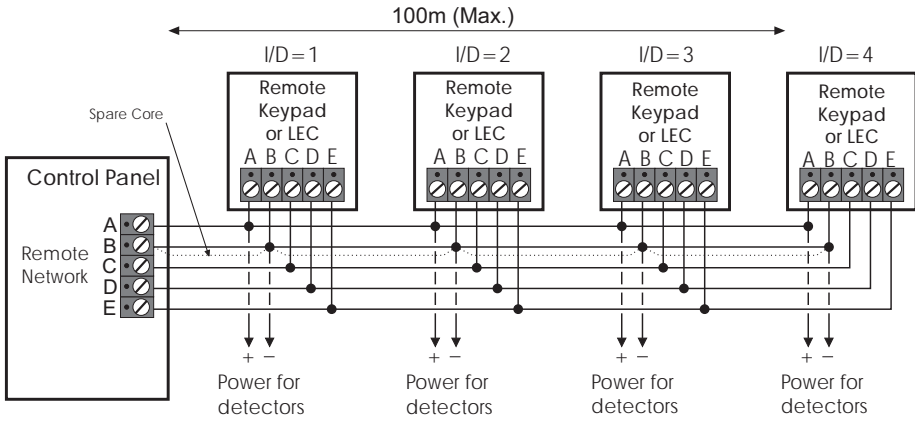

Figure 4. Remote Keypad & LEC connections
4. Connect "Remote Network" and detection circuit cables to the appropriate terminals, see Figure 4.